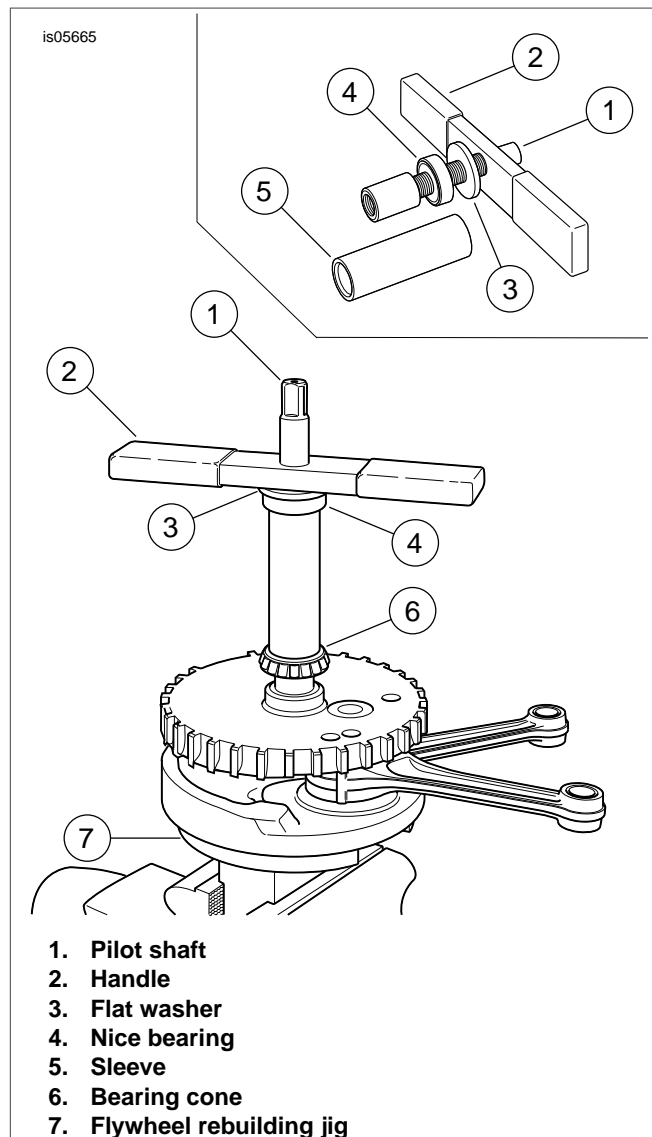

Figure 16. Sprocket Shaft Timken Bearing Cone Installer
7. See Figure 16. Place base of FLYWHEEL REBUILDING JIG (7) (part number HD-44358) in vise. Insert crankshaft end of flywheel assembly into fixture.